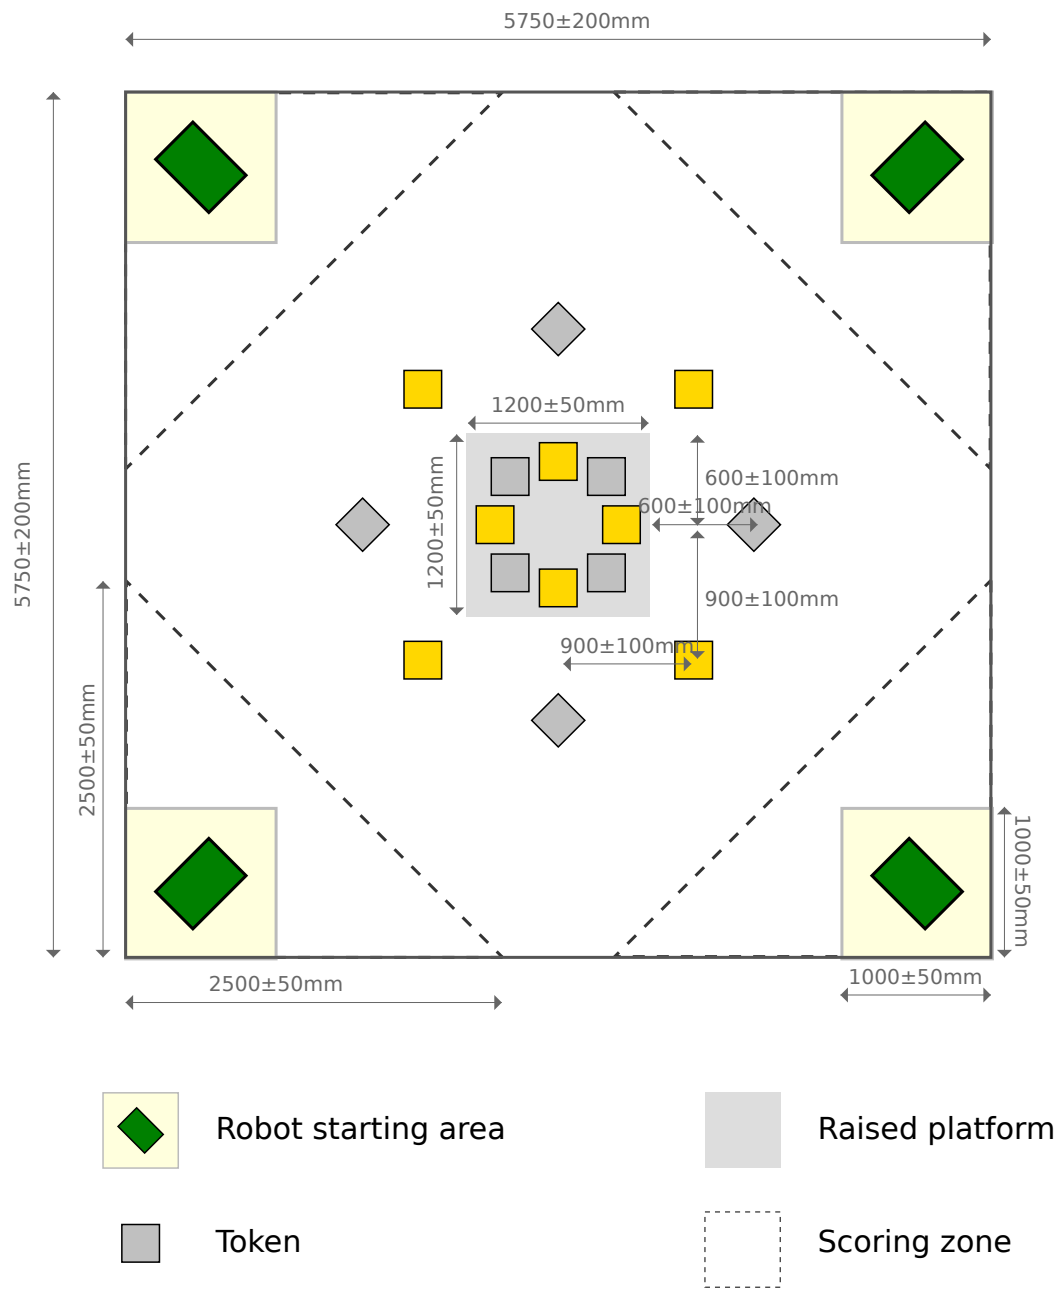

Figure 2: A bird's-eye view of the arena. All dimensions are in millimetres.
3.3.1 The match arena floor, overall, is an $5.75m \times 5.75m$ square, as shown in figure 2. The tolerance of these two dimensions is $\pm 0.2m$.
- 3.4.1 The four scoring zones form right-angled triangles, with the right angle described by the corner of the arena and the short sides of length $2500mm \pm 50mm$. The arrangement and dimensions of these zones can be seen in figure 2.
- 3.5.2 Tokens will be arranged as shown in figure 2 at the start of a match.